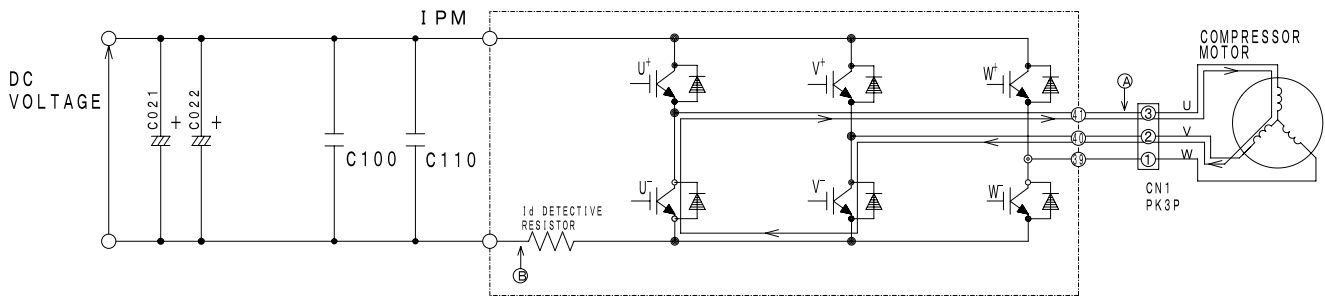

Fig. 4-4 Power module circuit ( $U^+$  is OFF,  $V^-$  is ON)
At point ⑥: U+ is chopped (OFF), V- is ON (circuit in Fig.4-4)
- (2) When U+ transistor is OFF: (by inductance of motor coil) U coil → V coil → V- transistor → Return diode → Point ⑤ (Fig. 4-4)